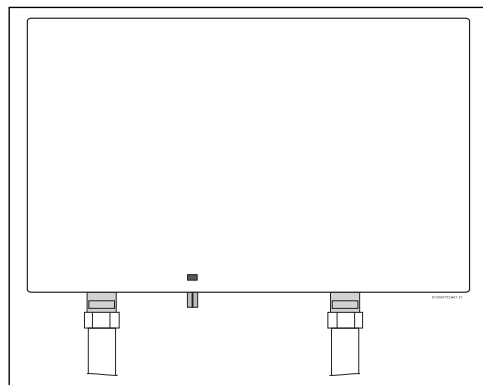

Fig. 5 Vertical mounting position
- The heater must only be installed in the orientation shown in Fig. 5 i.e., mounted in a vertical position with the water fittings located at the bottom of the heater. **Under no circumstances should the heater be mounted differently.**